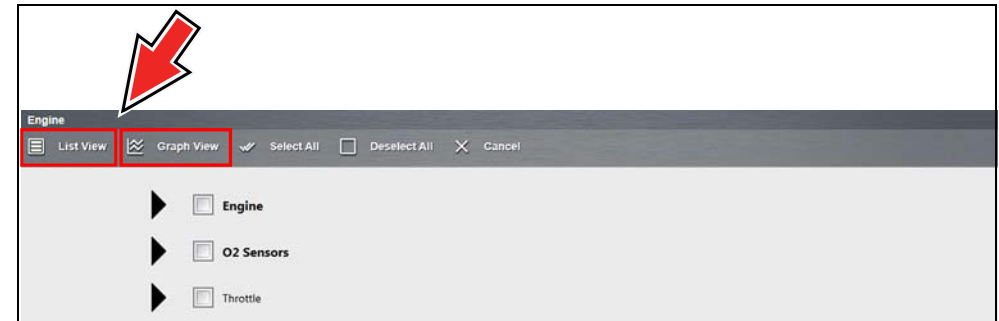

Figure 5-45
3. To view the custom list, select **List View** or **Graph View** from the toolbar (Figure 5-45).